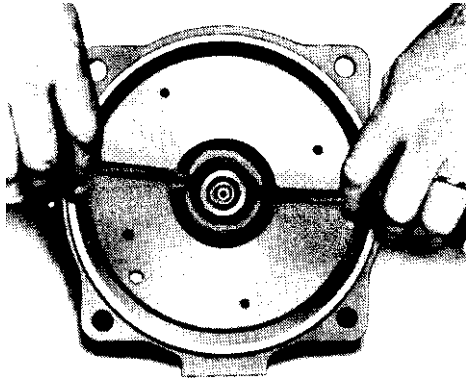

Figure 1
8. Pry off rotating member of mechanical seal from shaft by using two (2) screwdrivers (Fig. 1).